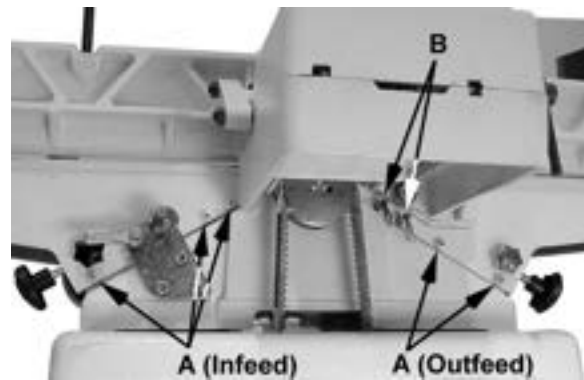
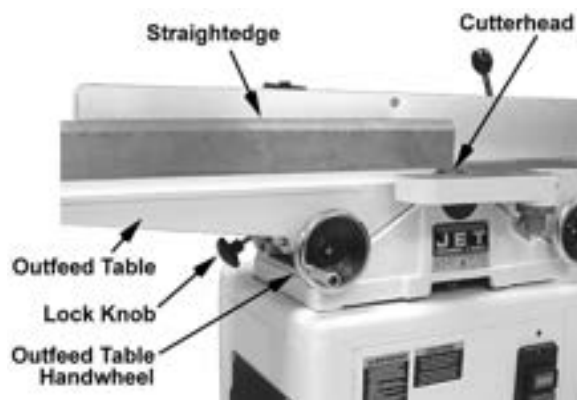

Figure 8-8
Figure 8-9
To adjust (refer to Figure 8-8):
- Place a straightedge upon the outfeed table and extend it over the cutterhead (Figures 8-9 and 8-10).
5. Loosen both *gib lock screws* (B, Fig. 8-8) and the *lock knob* (Figure 8-9).
7. Lock the *outfeed table* at that setting by tightening the *lock knob* (Figure 8-9) and *gib lock screws* (B, Fig. 8-8). The outfeed table adjustment is complete.